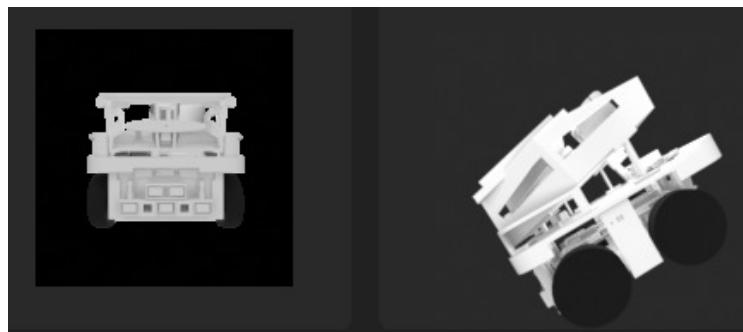

Figure 39: The 3D model in the GUI
- Integrated the 3d model into the GUI (see Fig. 39)
After fixing the hiccup with the too small images and the not working transparent background shown in Fig. 39 as well as integrating it into the CustomTkinter GUI, it works nicely and is very responsive to rotation changes, even if we only use every 2nd angle. It does slow down the start of the program though, because we have to load and unpack a 100MB npz file.